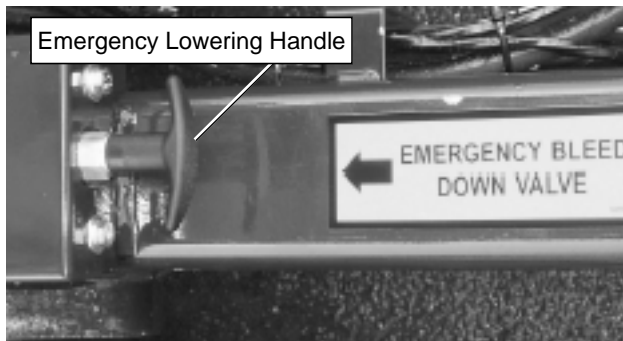

Figure 10.1 – Rear of Machine
3. The emergency lowering handle for the machine is mounted at the rear of the aerial platform (refer to Figure 10.1).